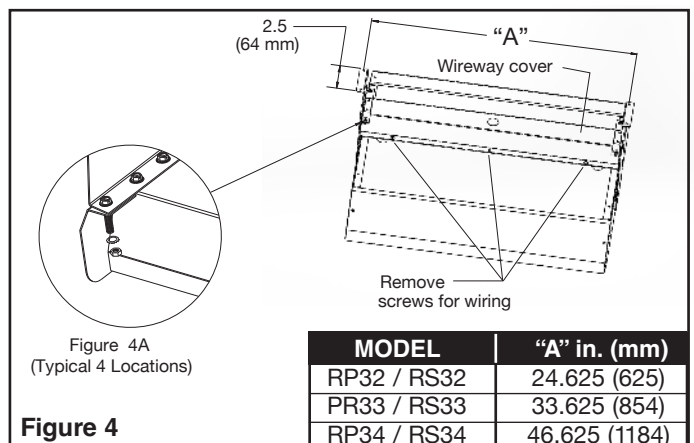

Figure 4A
1. On a workbench or other flat surface, attach supplied mounting brackets to ends of wireway cover (see Figure 4A) using bolts, star washers, and nuts supplied.